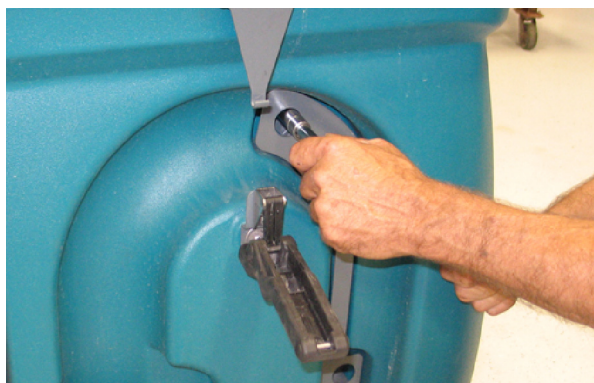

FIG. 1
4. Remove the shield from the back of the recovery tank. Set the shield and hardware aside. Refer to Fig. 1.